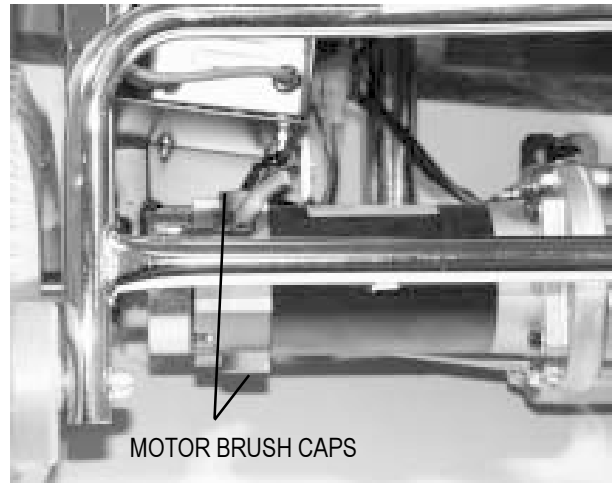

FIGURE 22. MOTOR BRUSH REPLACEMENT
4. Use a small right angle screwdriver to unscrew the top motor brush cap. See figure 22.